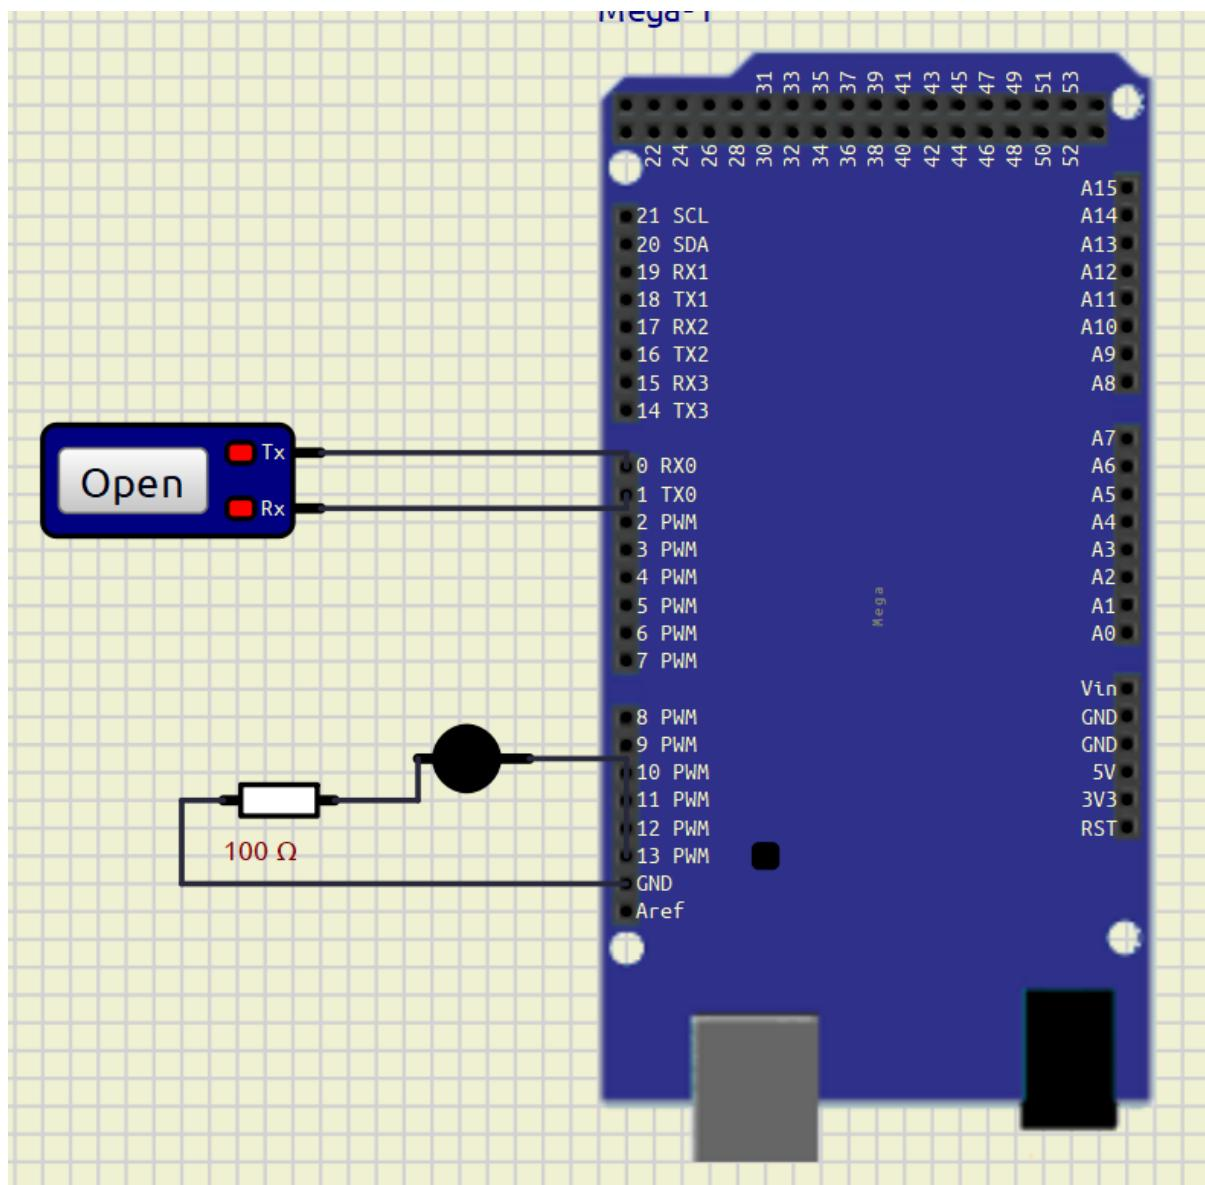

Figure 6: SimulIDE project setup for LED control
1. Figure 6 shows the SimulIDE project setup for the LED control system.